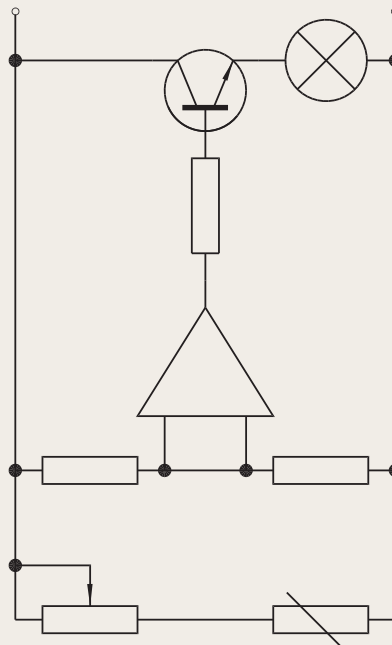

Fig. 9.24 Exercise 4
4. Construct the electronics circuit given in Fig. 9.24 from the file **electronics.dwg** using the **DesignCenter**.